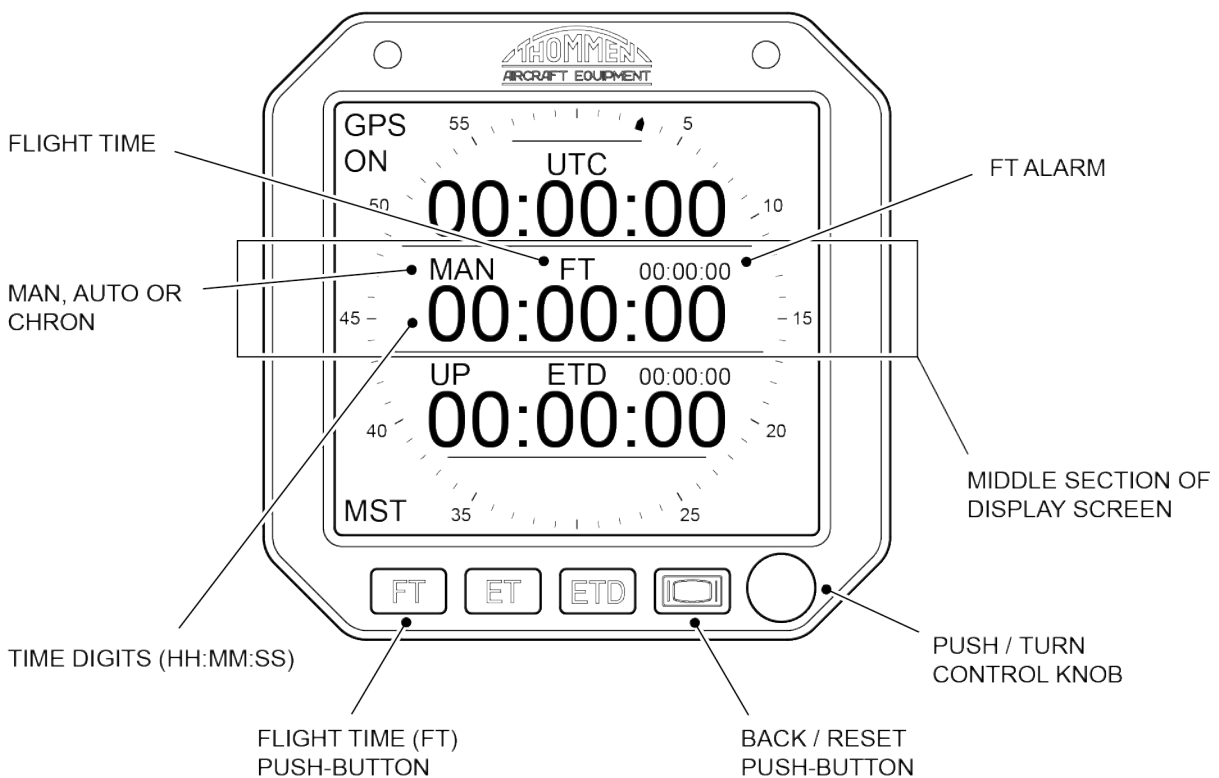

Figure 7 – Middle Section of Display Screen
4.5 Setting the Flight Timer (FT) and Flight Timer Alarm
The flight timer (FT) and flight timer alarm are displayed in the middle section of the display screen (refer to Figure 7).